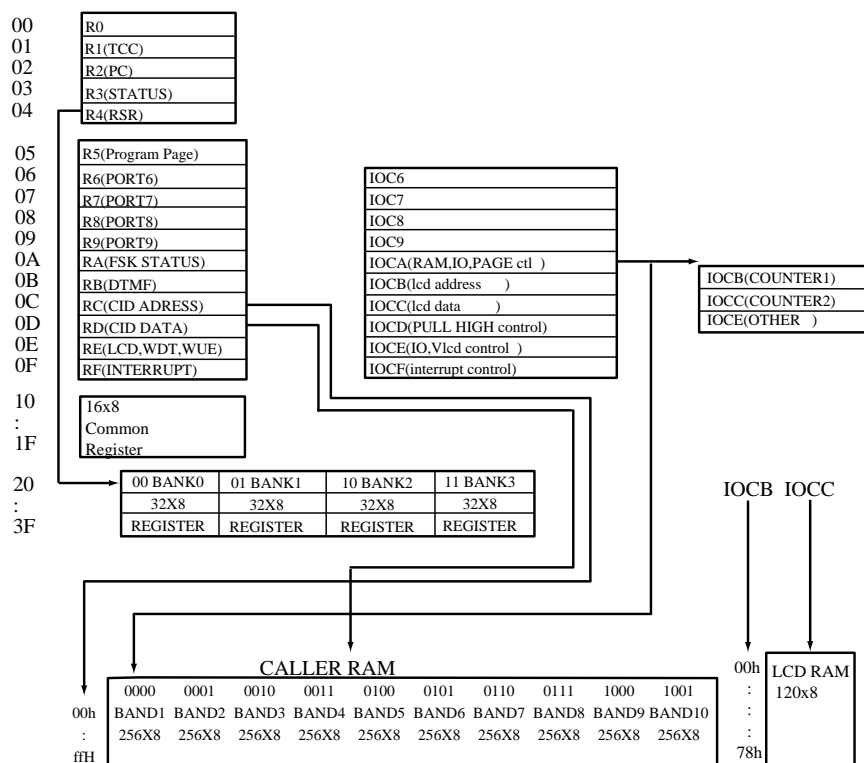

Fig.5 Data memory configuration
- See the configuration of the data memory in Fig.5.